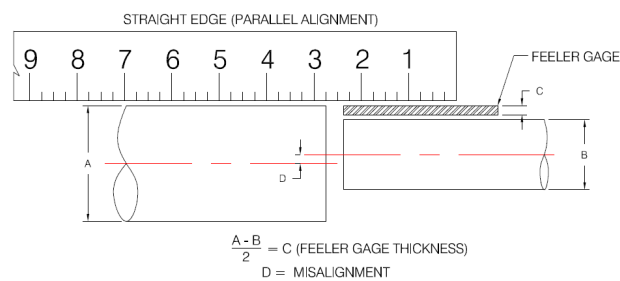

Figure 3
1. Align coupling to within manufacturer's limits for parallel and angular misalignment (see Figure 3 below). A dial indicator can also be used for alignment where greater precision is desired. Adjustments should be made by moving the motor to change the shaft angle, and by the use of foot shims to change the motor shaft height. Do not move the fan shaft or bearing.